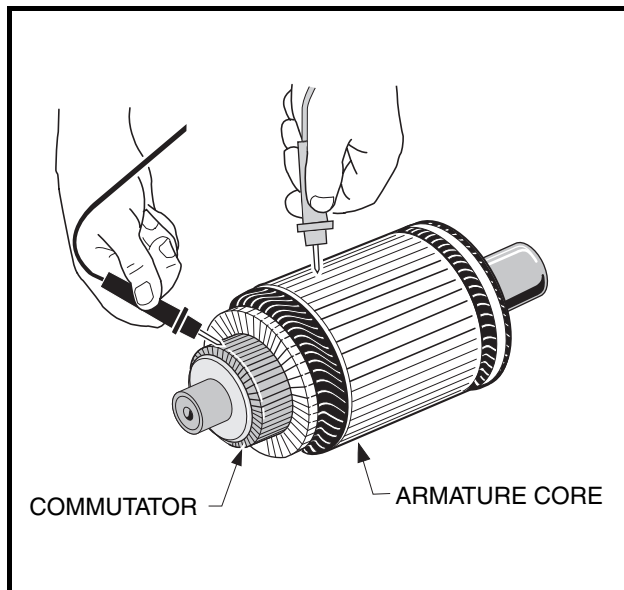

Figure 27-12 Armature Test
1. With a multimeter set to 200 ohms, place one probe on the commutator and the other on the armature core. The multimeter should indicate no continuity (**Figure 27-12, Page 27-7**). If the reading is incorrect, replace the armature.